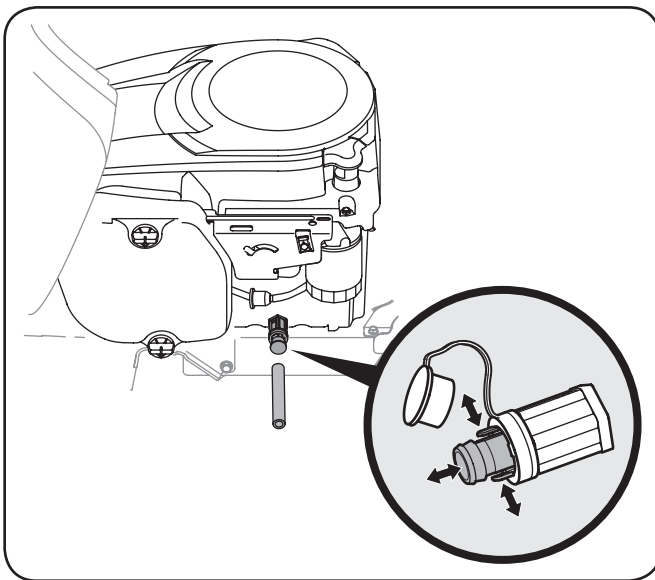

Figure 6-1
3. Pop open the protective cap on the end of the oil drain valve to expose the drain port. See Fig 6-1.
6. Pinch the tabs on the oil drain valve, then pull outward to begin draining oil. See the inset in Fig 6-1.